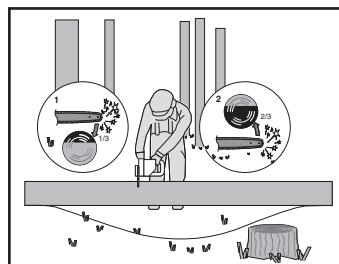

Figure 6
When the log is supported on both ends, as illustrated in Figure 6, cut 1/3 the diameter from the top (overbuck) (1). Then make the finished cut by underbucking (2) the lower 2/3 to meet the first cut.